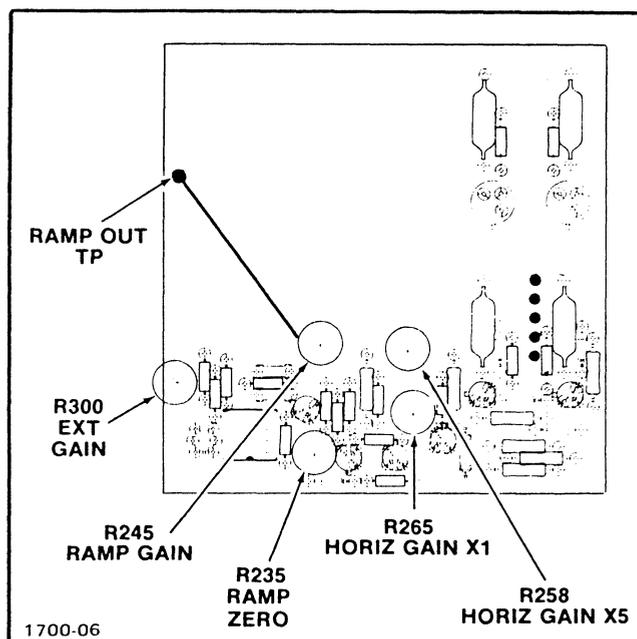

Fig. 3-4. Location of Horizontal Amplifier adjustments.
a. ADJUST—Horizontal Gain X1, R265, for nine divisions of deflection. See Fig. 3-4 for adjustment location.
b. ADJUST—Sweep Adj, R212, to display a total of eleven time-marks, then readjust R265 for one time-mark per graticule division. See Fig. 3-4 for adjustment location.
- e. ADJUST—Horiz Gain X5, R258, for two time-marks between five graticule divisions (VARIABLE control must be fully cw). See Fig. 3-4 for adjustment locations.
a. Connect the test probe from the test oscilloscope to the Ramp Out test point. See Fig. 3-4 for test point location.
b. Connect the test probe from the test oscilloscope vertical amplifier to the Ramp Out test point. See Fig. 3-4 for test point location.
d. ADJUST—Ramp Zero, R235, so bottom of the ramp coincides with the zero reference line. See Fig. 3-4 for adjustment location.
f. ADJUST—Ext Gain, R300, for 10 divisions of horizontal deflection. See Fig. 3-4 for adjustment location.